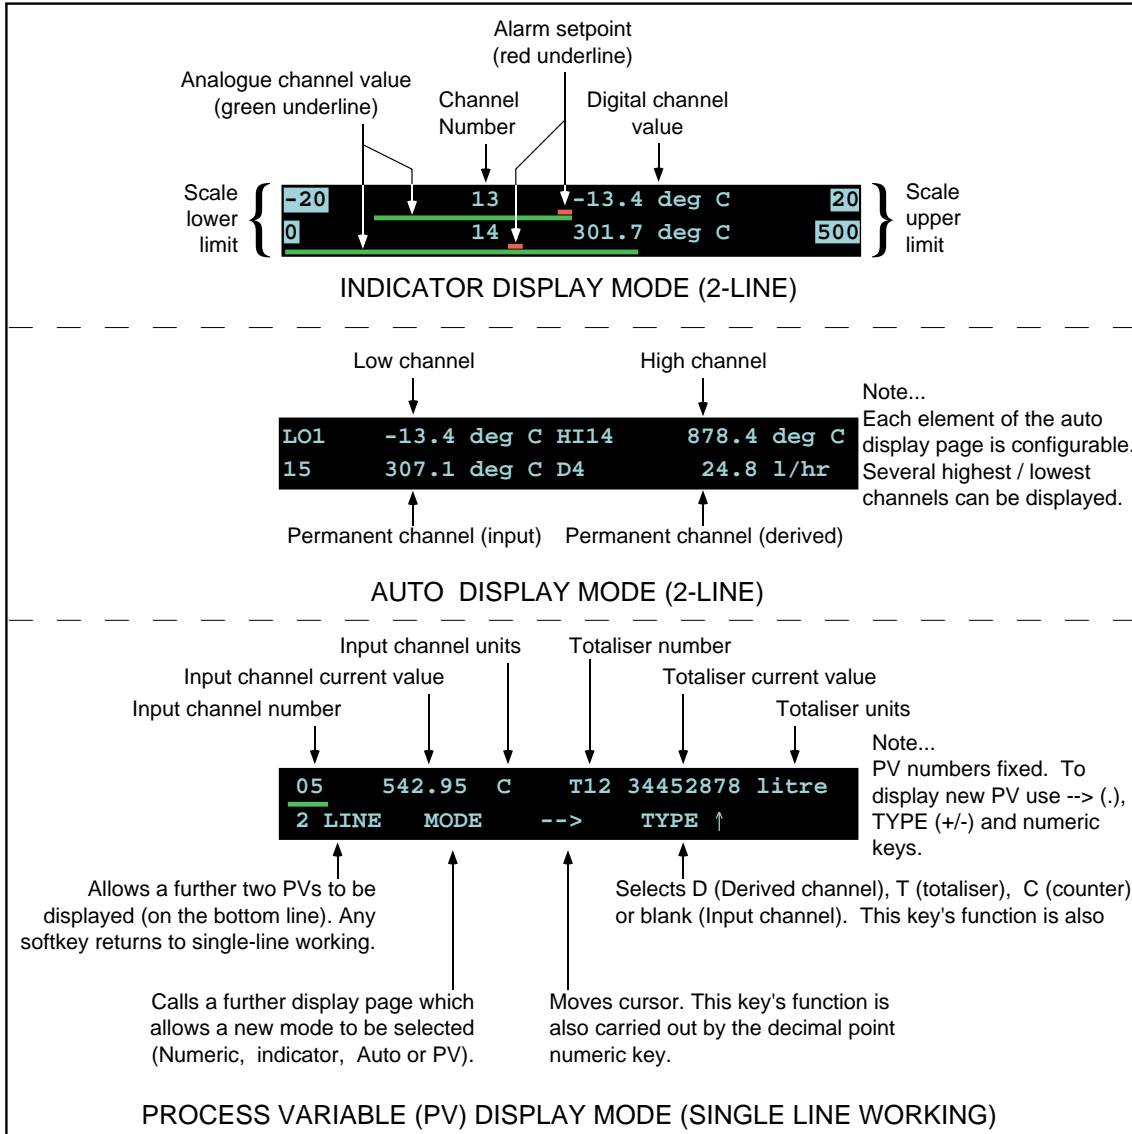

Figure 3.2.1b Other display modes
**Indicator** The display contains a digital value for channels and a green dynamic analogue (bar) display for the channel value. Alarm setpoints (absolute and deviation) are shown using red underline characters (figure 3.2.1b). Totalisers, counters and timers appear only as digital values, without the bar display.
**PV Select** Allows up to 4 process variables to be selected for continuous display, independently of Group organisation. The display can be two PVs on a single line as shown in figure 3.2.1b, or if the 2 LINE softkey is operated, the bottom line can be used to display two further PVs.